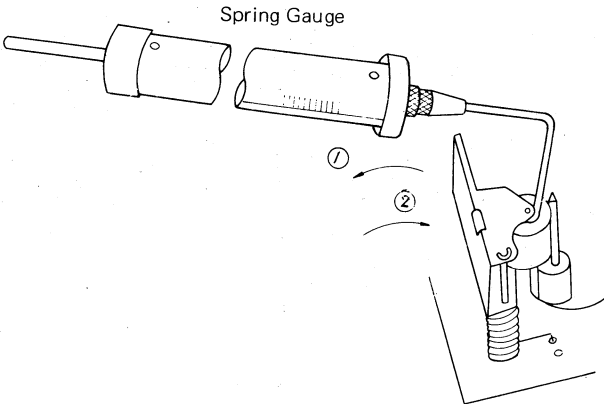

Fig. 15
PINCH ROLLER ADJUSTMENT (Refer to Fig. 15)
2. Pull pinch roller in the direction of arrows with spring gauge, as shown in Fig. 15.